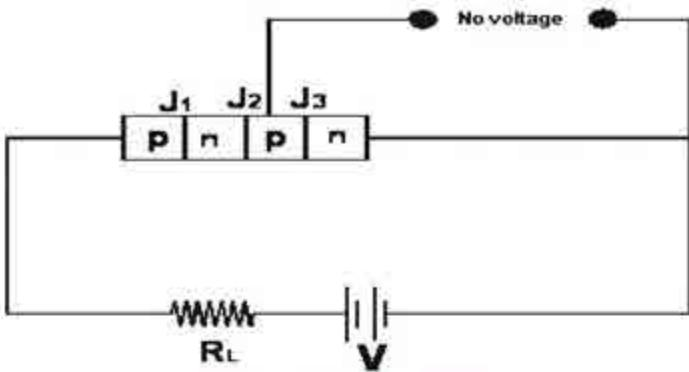

Fig.6.7 SCR with gate open
- (I) When Gate is open: Fig.6.7 shows the SCR circuit with gate open i.e. no voltage is applied to the gate. Under this condition, junction J_2 is reverse biased while junction J_1 and J_3 are forward biased. Hence, the situation in the junctions J_1 and J_3 are just as in NPN transistor with base open. Consequently, no current flows through the load R_L and the SCR is Cut-off. However, if the applied voltage is gradually increased, a stage is reached when reverse biased junction J_2 breaks down. The SCR now conducts heavily and is said to be in the ON state. The applied voltage at which SCR conducts heavily without gate voltage is called breakdown voltage. Commercially available SCRs have breakdown voltages from about 50 V to 800 V.